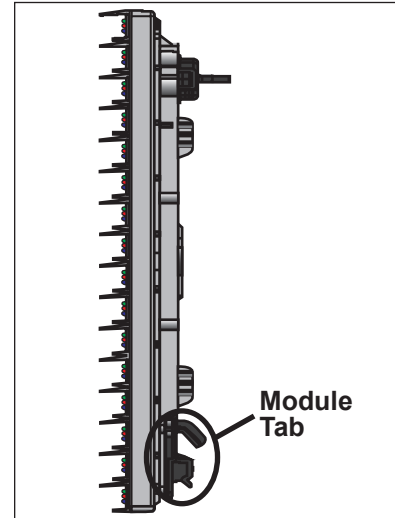

Figure 17: Tab on Back of Module
- Place modules back into their proper locations by inserting the tabs at the bottom of the modules in the corresponding slots on the display face sheet. Refer to **Figure 17**. Tip the top of the module back into place and latch it by turning the hex head wrench a quarter-turn counter-clockwise.
8. Insert the tabs at the bottom of the module in the corresponding slots on the display face sheet. Refer to **Figure 17**. Tip the top of the module back into place and latch it by turning the hex head wrench a quarter-turn counter-clockwise. Make sure not to pinch any cables.